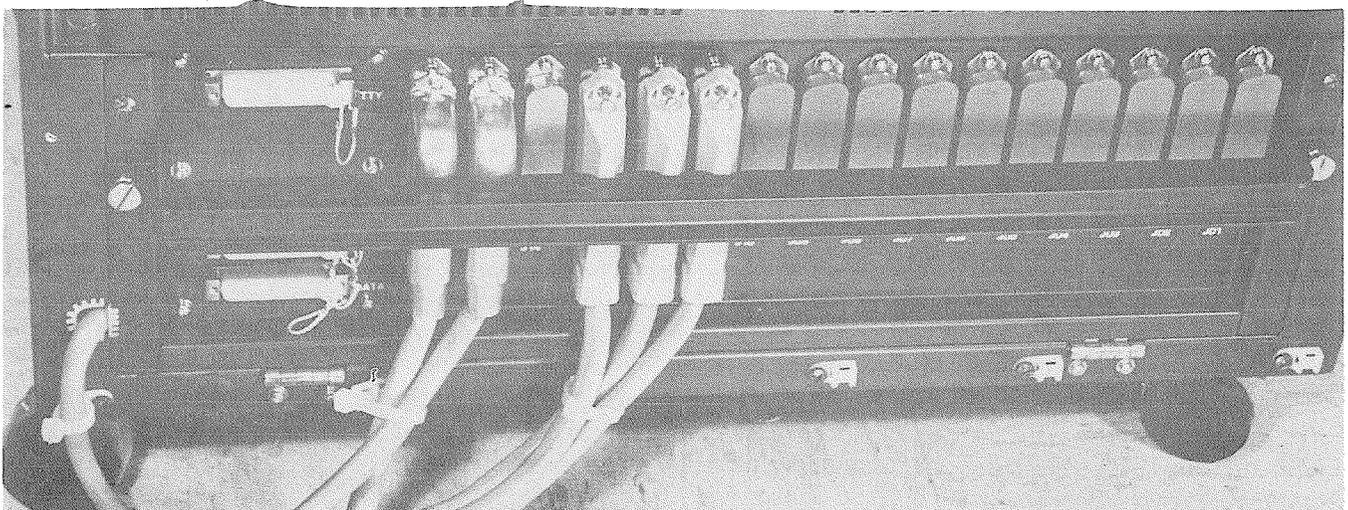
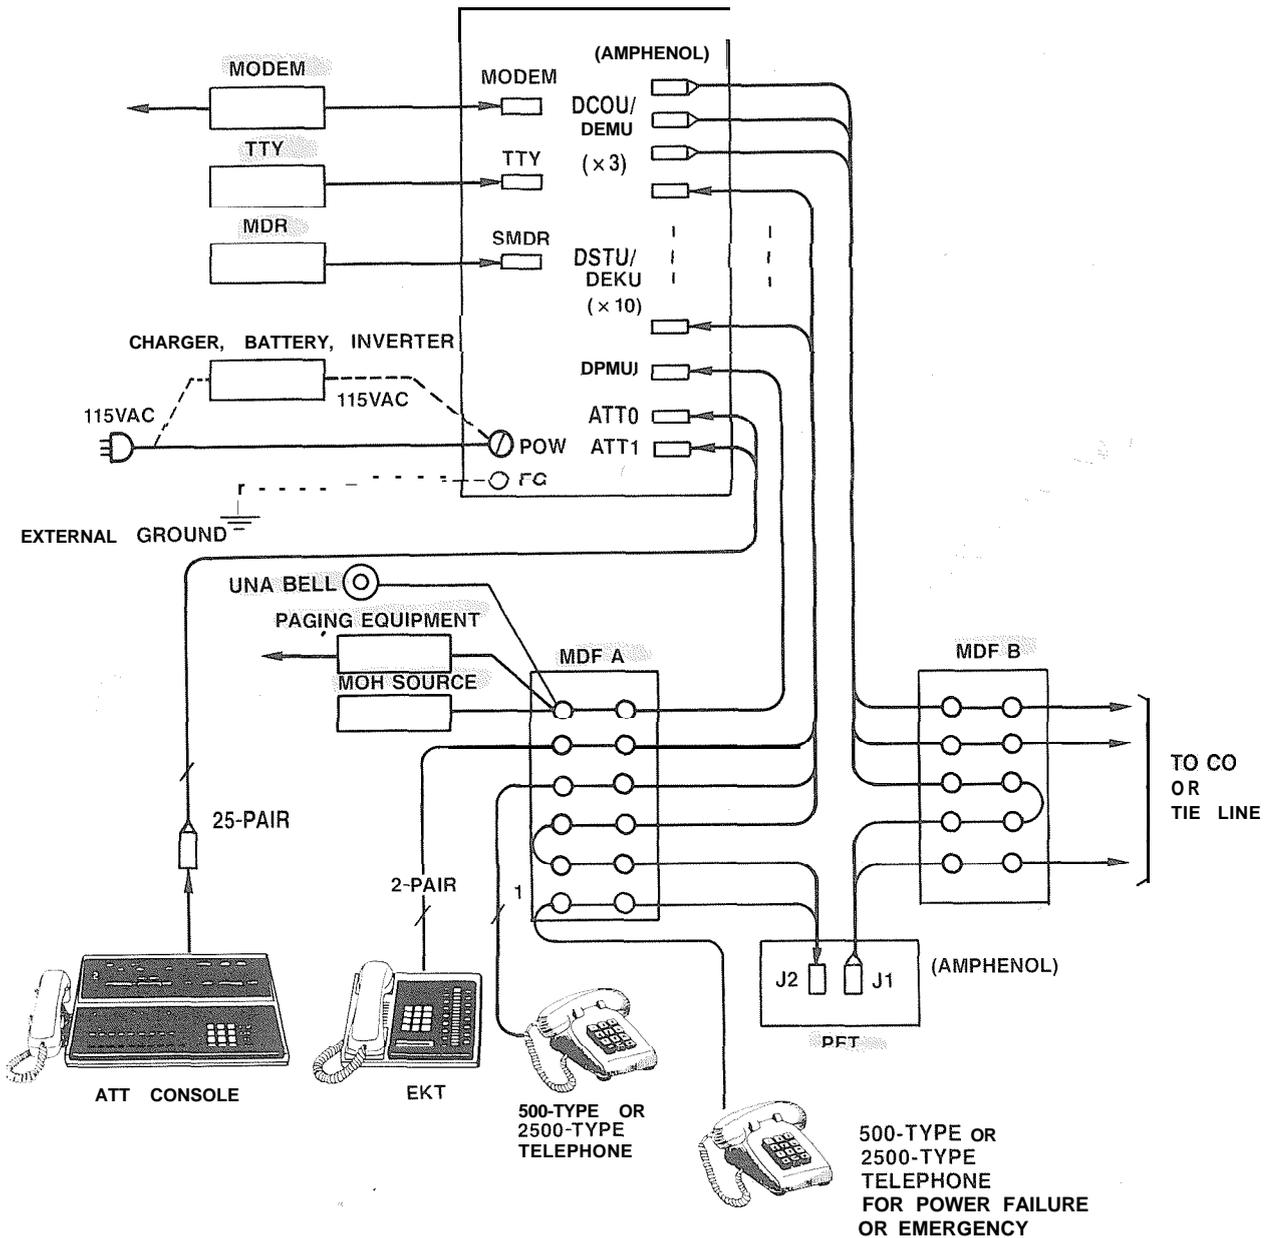

FIGURE 23—DCEC REAR CONNECTOR PANEL
FIGURE 24—MAIN DISTRIBUTION FRAME
06.02 A typical layout for a PERCEPTION MDF is shown in Figure 24. Cables with amphenol-type connectors are attached to the connector panel of the DCEC and secured with the connector locking bar (Figure 23). Plastic cable clamps are provided along the base of the DCEC to secure the cables. The opposite ends of the cables are then terminated on "66"-type quickconnect terminal blocks. Split blocks with bridging clips should be used to allow for fault isolation. Connect each cable from the DCEC to one side of the block, external equipment cables to the other side, and use bridging clips to make the connections.